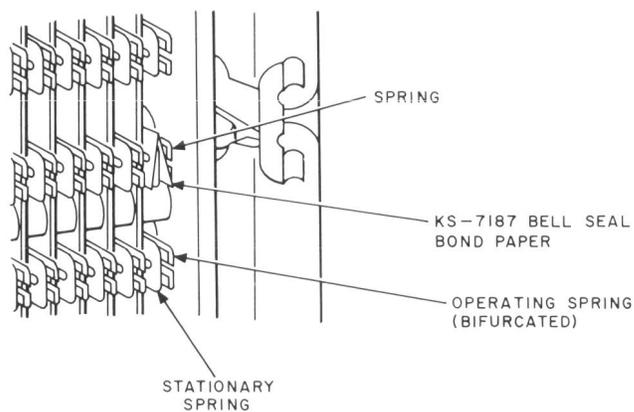

Fig. 42—Insulating Contacts of 245- and Similar-Type Relays
- (1) **Flat-Spring Type:** Cut the strip of KS-7187 paper to the required size. Fold the paper and insert it between the contacts as shown for typical relays in Fig. 42.
- (2) **Wire-Spring Type:** Use the KS-14737, L1, paper insulator, and follow the procedure given in paragraph 5.04.